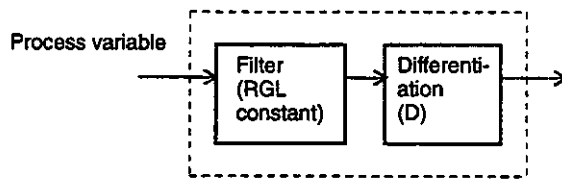

Figure 2.8 Inexact Differentiation
- 2) To prevent this, a low-pass filter (initial delay filter) that cuts the high frequency components before derivatives are input, and inexact differentiation is used. (Refer to *Figure 2.8*.) Stated simply, it entails somewhat slowing the changes in output generated by differentiation (giving it a time amplitude), then providing an upper limit to output, thereby making derivative action work effectively.